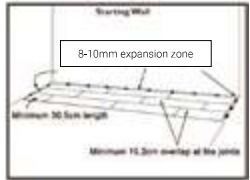

Fig.3
- Start the second row on the left side with a piece cut to about 2/3 the length of the starting plank in the first row. It is important to keep the end joints staggered a minimum of 15.2 cm in adjacent rows (Figure 3).